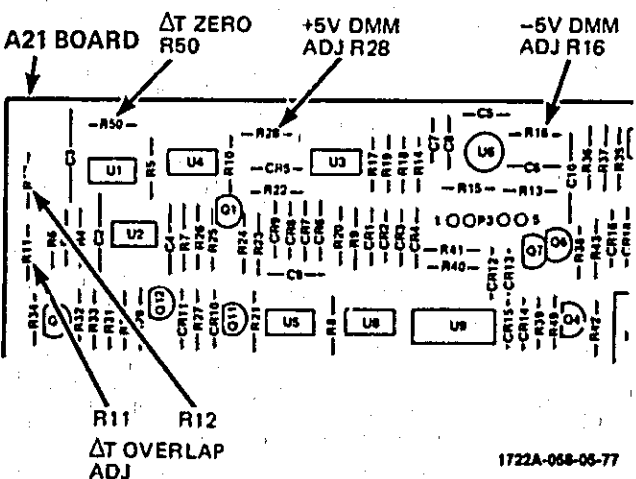

Figure 5-21. Analog Assembly Adjustments
#### 5-77. DIGITAL VOLTMETER ADJUSTMENT. (See schematic 23 and figure 5-21.)
**5-81. DELAY CONTROL ADJUSTMENT.** (See schematic 23 and figure 5-21.)